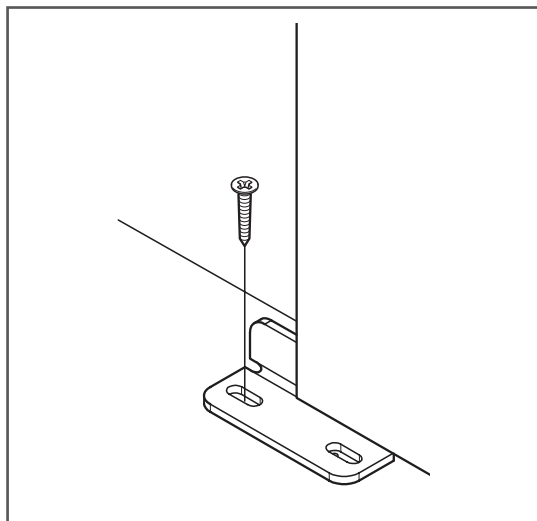

Figure 7
12. Position the Door Guide part way into the groove in the bottom of the door (Figure 7).